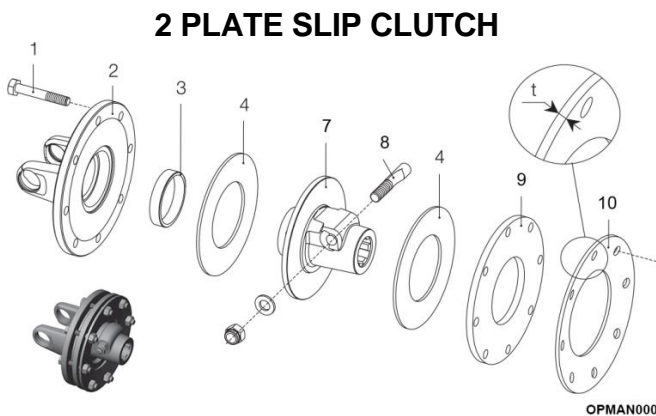
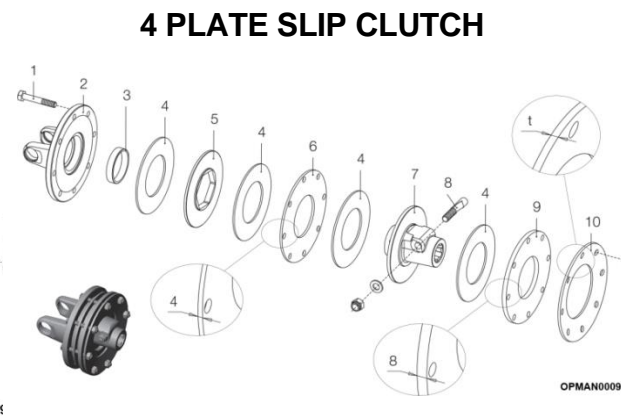

Figure 5.36
Figure 5.37
Figure 5.36 and Figure 5.37 give a full breakdown of the slip clutches and where each type can be found on a machine.
- 5.4.1.6 Assemble in sequence the other parts as shown in Figure 5.36 and Figure 5.37, depending on the PTO shaft in question